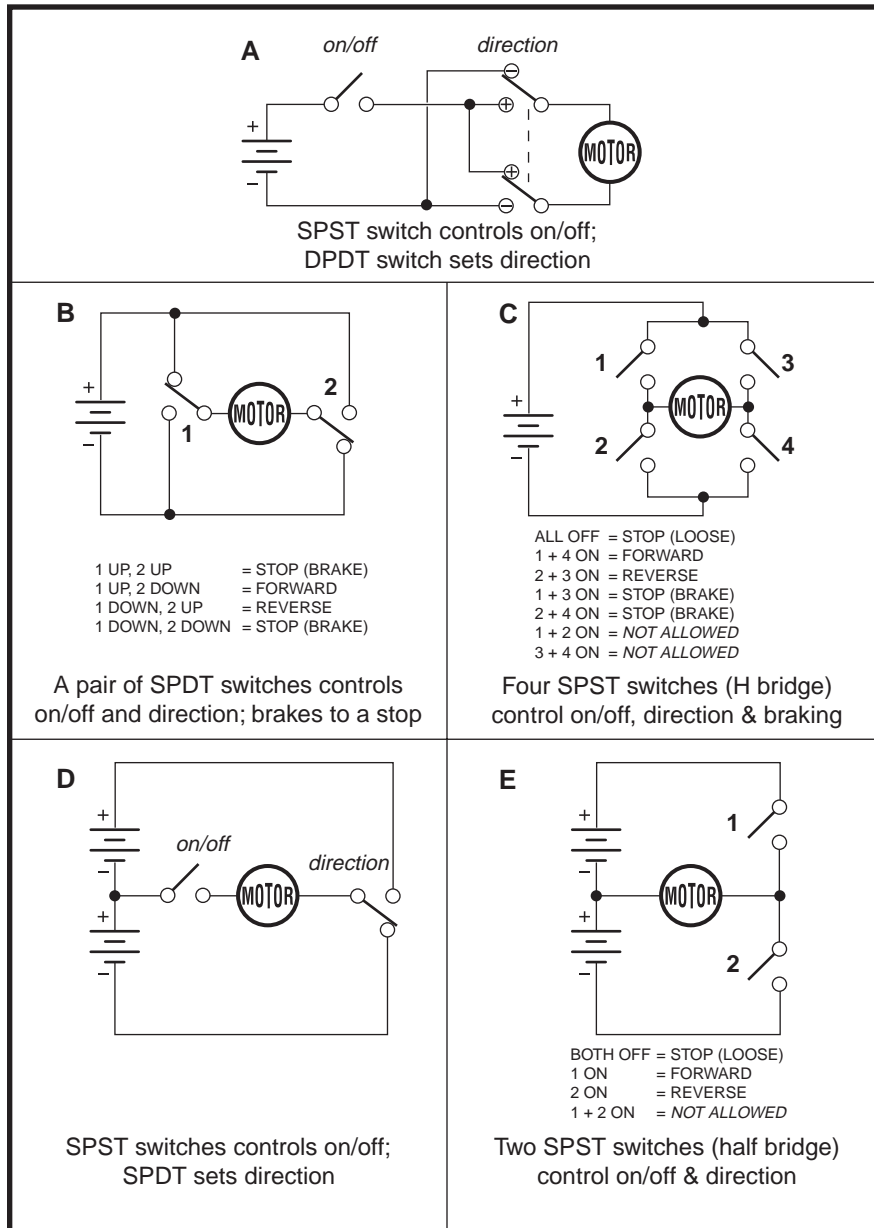

Figure 2. Motor controllers using manual switches.
**Manual Motor Controllers.** Figure 2 shows how our understanding of DC motor control translates into five manual motor-control circuits using switches.
Throws refer to the number of circuits a switch can make. An ordinary on/off switch makes or breaks just one connection, so it's a single-throw switch. The direction switches at the top of figure 2 select one of two connections, so they are *double-throw* switches.